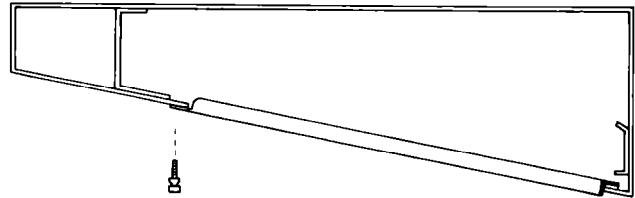

Figure 11
8. Insert Glass Frame Assembly according to Figure 11.